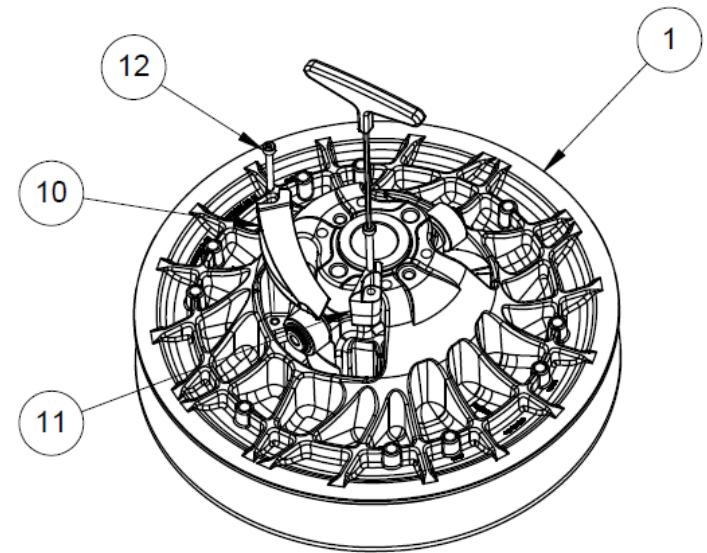

Figure 21
- Using the 3mm hexagonal key, remove the 4 screws ⑫ of the 2 forward ramps ⑩ and the 2 rear ramps ⑪ from the fixed sheave ① (figure 21).
- Remove the 2 forward ramps ⑩ and the 2 rear ramps ⑪.
- Disassemble the 2 sheaves ① and ②.